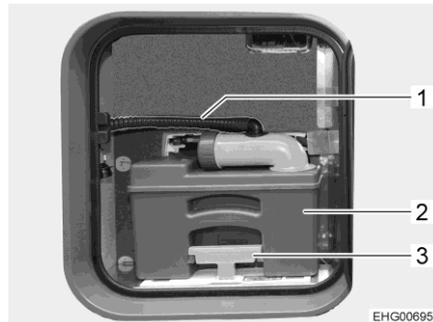

Fig. 112 Sewage container (in vehicle)
- Pull off the hose (Fig. 112,1) of the ventilation system.
- Pull up the retaining clip (Fig. 112,3) and pull out the sewage container (Fig. 112,2).